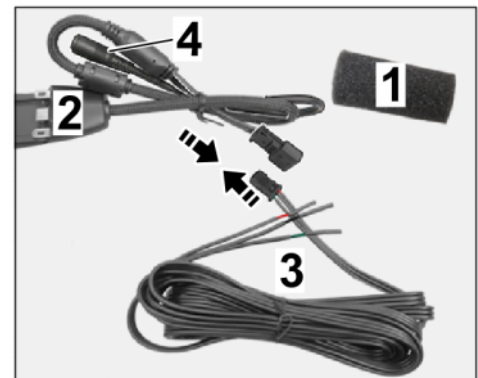

Figure 12
3.1.2 Connect plug connection (3-pin) (⇒ Figure 12-**Arrow**-).